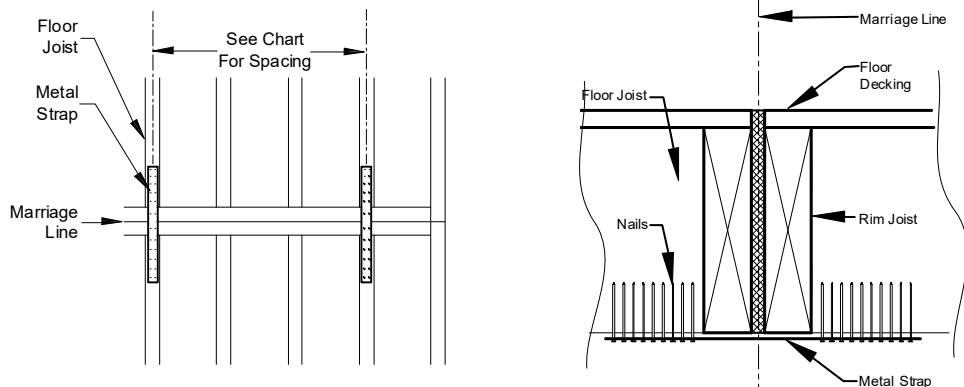

Figure 31. Metal strapping for Wind Zones II and III
- Optional - In Wind Zones II and III, fasten additional metal straps of minimum 26 gauge, 1-1/2" wide galvanized steel spaced per **Table 14** and fastened per **Table 15** to the underside of the floor joists (Figure 31). Select a strap length sufficient to hold the required fasteners.